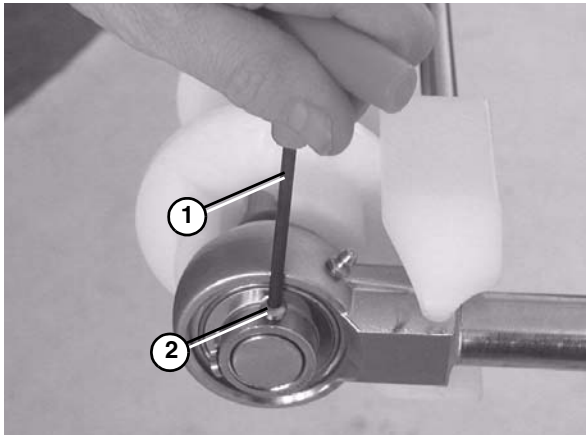

Figure 74
11. Use a hex wrench (**Figure 74, item 1**) to tighten the bearing shaft fasteners (**Figure 74, item 2**) to 54 in•lbs (6 N•m). Check after 24 hours of conveyor use.